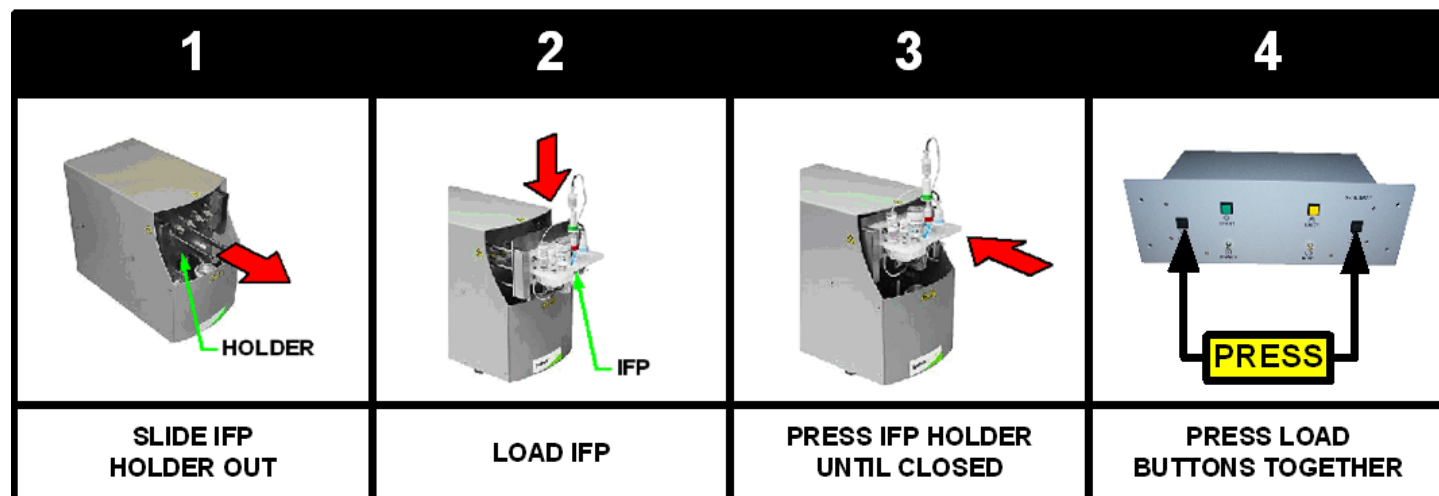

Figure 5.
5.1 IFP™ installation (See Fig. 5)
- Pull IFP™ holder forward to clear the cover as shown in Step 1 on Figure 5. . If the holder will not move press EJECT button on Control Box. Stand clear of the processing unit to allow the IFP™ holder to move to EJECT position.
- Insert IFP™ into the holder as shown in Step 2 on Figure 5.
- Push the holder back as far as possible as shown in Step 3 on Figure 5.
- Press both LOAD  buttons on the control box simultaneously as shown in Step 4 on Figure 5. .